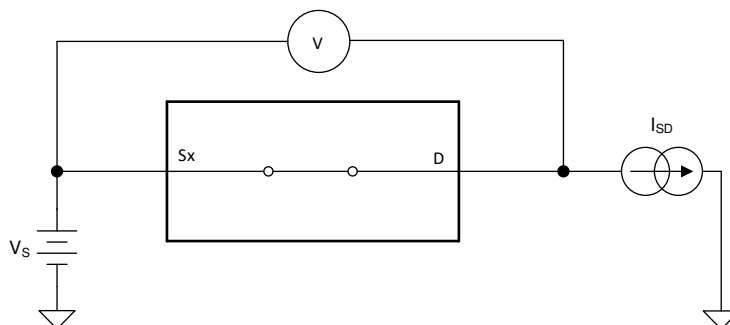

图 16. On-Resistance Measurement Setup
The on-resistance of a device is the ohmic resistance between the source (Sx) and drain (D) pins of the device. The on-resistance varies with input voltage and supply voltage. The symbol R_{ON} is used to denote on-resistance. The measurement setup used to measure R_{ON} is shown in 图 16. Voltage (V) and current (I_{SD}) are measured using this setup, and R_{ON} is computed with $R_{ON} = V / I_{SD}$: